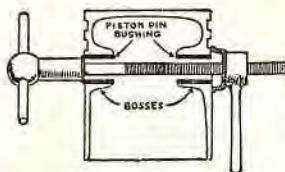

Fig. 46. One method of removing the two bushings from the piston bosses where the piston pin oscillates.
The oscillating piston pin (Fig. 40) is used where the piston pin is clamped to the upper end of the connecting-rod, as shown in (C) (Fig. 41). The bronze bushings in this instance are pressed into bosses in the piston, and the piston pin oscillates in the bronze bushings. (See page 796, Fig. 46, showing where piston bosses are located in pistons.)